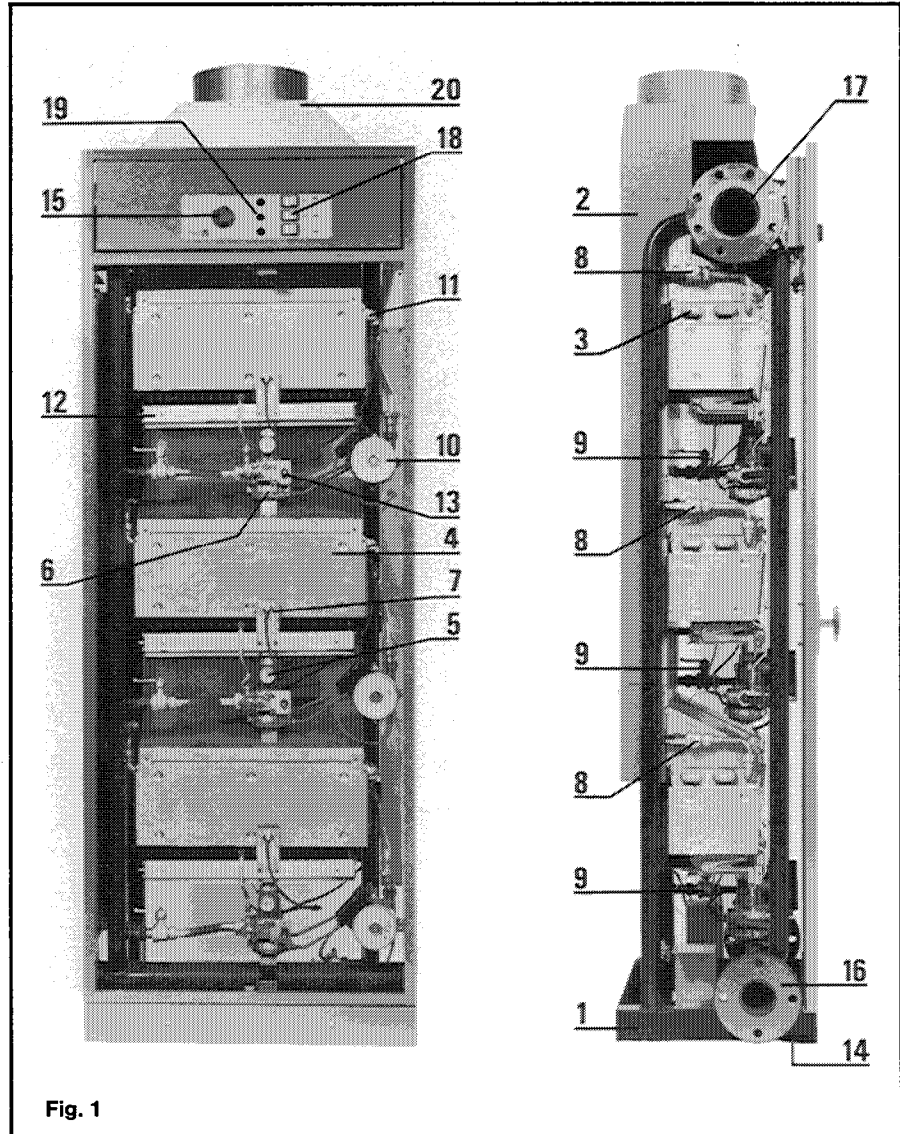
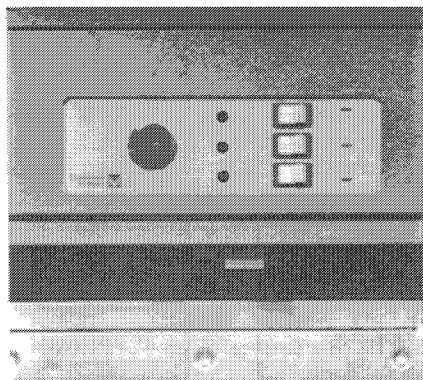
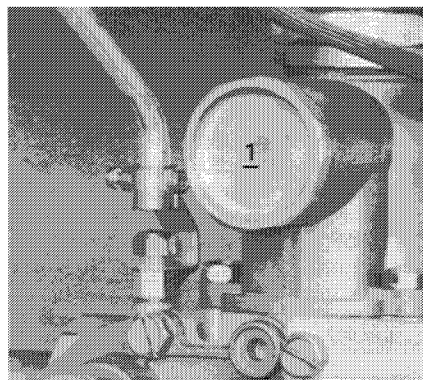

Fig. 1
Fig. 6
Fig. 7
Level the boiler using the bolts provided in the accessory box (14 - fig. 1).
10) Filling the system – Fill the system slowly. The filling operation should be carried out with the flow and return isolating valves on each module (8 and 9 - Fig. 1) fully open.
Set the boiler thermostat on each boiler (Fig. 6) to a minimum, and check that all module isolating switches are off (18 - Fig. 1). The switches are wired to be on when at (*) and off when at "STOP"
Turn up the boiler thermostat (Fig. 6) to the required value, and switch on the individual modules at the isolating switches. The modules should now fire. Check for gas leaks and flue spillage.
Turn off the module to be checked at the isolating switch (18 - Fig. 1) and remove the cap from the volume governor (1 - Fig. 7).